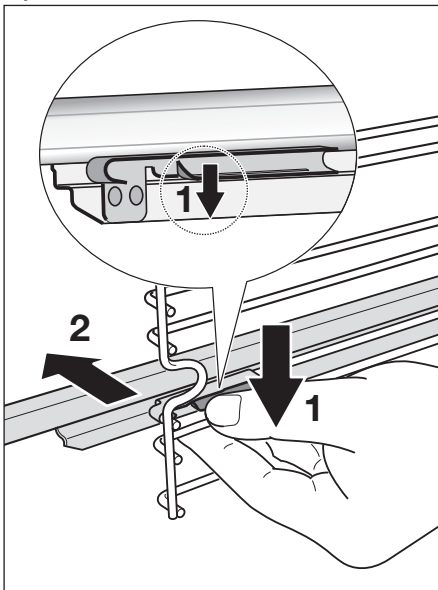

Fig.42 Removing the sliding shelf supports
- 3 Find the safety locks. These are the tabs that clip over the wire of the side rack (arrow 1 in Fig. 42).
- 4 Pull the safety locks away from the wire to release the wire (arrow 2 in Fig. 42).